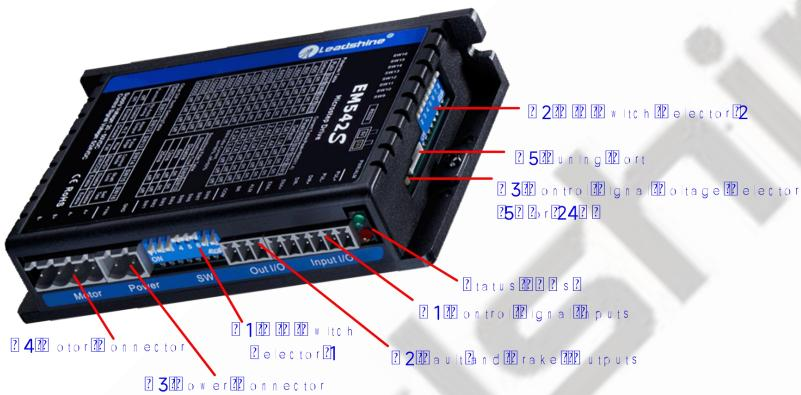

Figure 2 Connectors, DIP switches, and LED locations
PUL+ (CW+)	Pulse and Direction Connection: (1) Optically isolated, high level 4.5-5V or 24V, low voltage 0-0.5V (2) Maximum 200 KHz input frequency, 500KHz customized model is available (3) The width of PUL signal is at least 2.5μs, duty cycle is recommended 50% (4) Single pulse (step & direction) or double pulse (CW/CCW) is set by DIP Switch SW14 (5) DIR signal requires advance PUL signal minimum 5 μs in single pulse mode (6) The activated edge of PUL and DIR is set by DIP Switch SW13 (7) The factory setting of control signal voltage is 24V, must need to set S3 (figure 2) if it is 5V
ENA+	Enable Connection: Optional. (1) Optically isolated, differential. (2) Disable the drive by 4.5-5.0V or 24V input connection; enable the drive by 0-0.5V connection(default no connection) (3) ENA signal requires advance DIR signal minimum 5μs in single pulse mode (4) The default control signal voltage is 24V, to set S3 (figure 2) if it is 5V (5) Enable time to be at least 200ms
The DM542 can accept differential or single-ended control signals (pulse, direction, and enable) in open-collector or PNP connection through the P1 connector (figure 2). It is recommend to add an EMI line filter between the power supply and the drive to increase noise immunity for the drive in interference environments.
The first 8-bit is located on the side (DIP switch selector 1 in Figure 2) and used to configure settings of micro step resolution, output current, and motor standstill current as shown below, the factory setting of SW1-SW8 is ON, ON, ON, OFF, OFF, OFF, ON, ON.
The second 8-bit DIP switch is located on the top (DIP switch selector 2 in figure 2), and used to configure settings of control command filtering time, motor auto-configuration, fault output impedance, pulse active edge, control mode, lock shaft, and self-test as shown below, the factory setting of SW1-SW8 is OFF, OFF, OFF, OFF, OFF, OFF, OFF, OFF.
The Third 1-bit selector is located on the top (DIP switch selector 3 in figure 2), used to configure the voltage of control signals. For the safety of optically coupled, the factory setting is 24V, which no need to connect 2K resistors like the old drives, making it easier to use. When the voltage of the control signal is 5V, the S3 must be set to 5V, otherwise, the motor won't work.